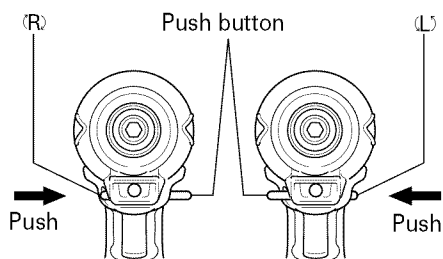

Fig. 7
The L-side of the push button is pushed to turn the bit counterclockwise. (See Fig. 7). (The (L) and (R) marks are engraved on the body.)